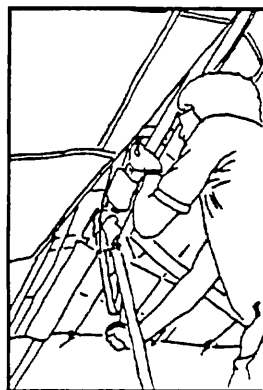

Figure 59
- 4) At the control bar apex, remove the safety and wingnut from the crossbar restraint cable. Use the perlon as you did during set up to pull the crossbar back and take the load off the crossbar cable, and pull the bolt out of the keel. Replace the other side cable thimble, the wingnut and the safety on the bolt. (Figure 59)